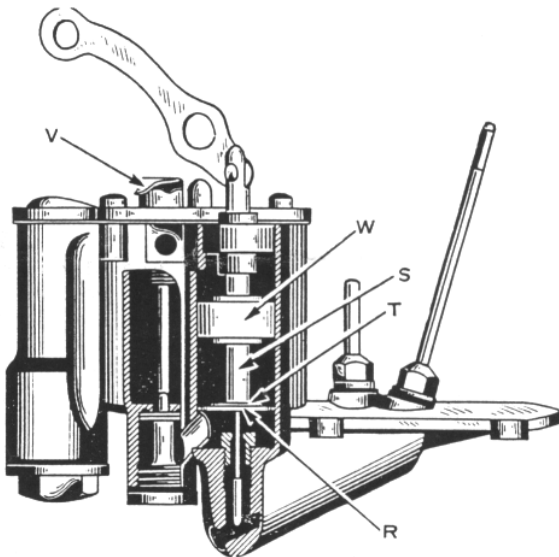

Fig. 8A.
*Cutaway view of section of Marvel carburetor used on Essex automobiles. The plunger (W) is free to move on the shaft (S). The disc (R) has several holes in it which permits gasoline to pass through when the plunger shaft (S) is suddenly forced down. The pressure of the gasoline passing through the disc (R) causes the plunger (W) to lag and thus a prolonged charge of gasoline is forced into the carburetor mixing chamber. (See Fig. 8A)*